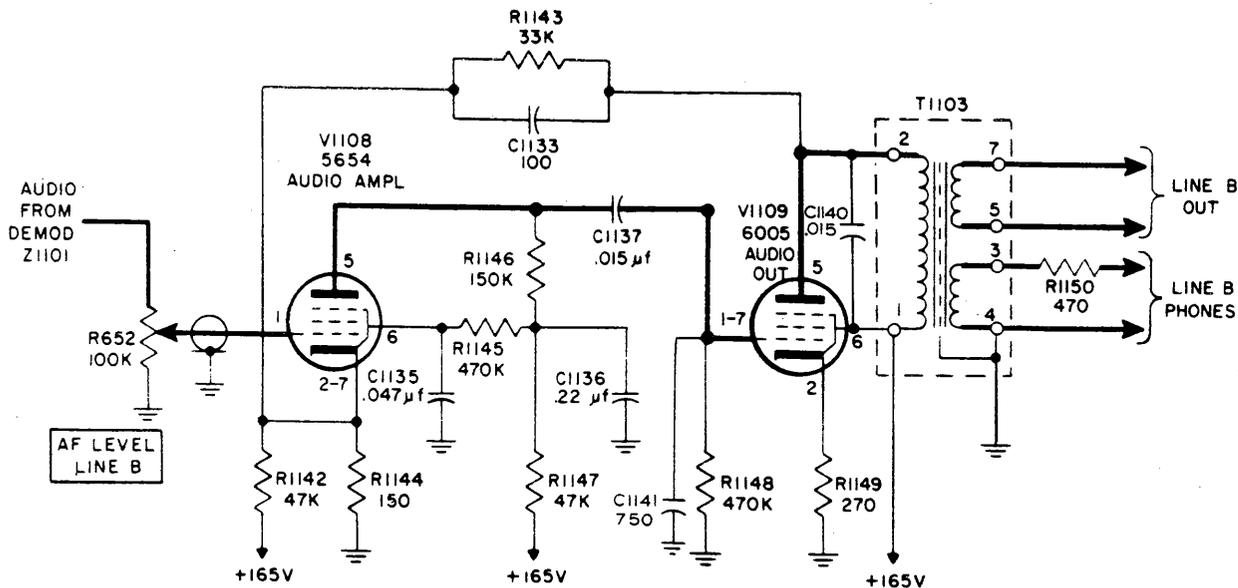

Figure 4-35. Audio Amplifiers V1108 and V1109, Simplified Schematic Diagram
signals of sum and difference frequencies. Z1101 bypasses the sum frequencies and applies the difference frequencies to audio amplifier V1108 (figure 4-35) through AF LEVEL LINE B potentiometer R652.
f. AUDIO AMPLIFIERS V1108 AND V1109. (See figure 4-35.)—The input audio level selected by AF LEVEL LINE B potentiometer R652 is applied to the control grid of audio amplifier V1108, the output of which is developed across plate load resistor R1146 and applied to audio output amplifier V1109 through capacitor C1137. The output of V1109 is developed across output transformer T1103 which has two secondary or output windings, one to the LINE B OUT jack and the other to the LINE B PHONES jack.